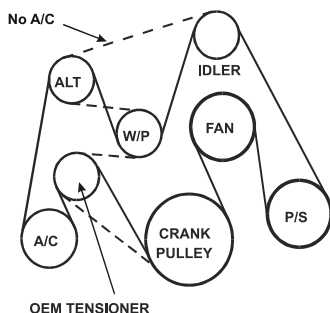

Figure 3.3
- ☐ Install the OEM belt (Figure 3.3).